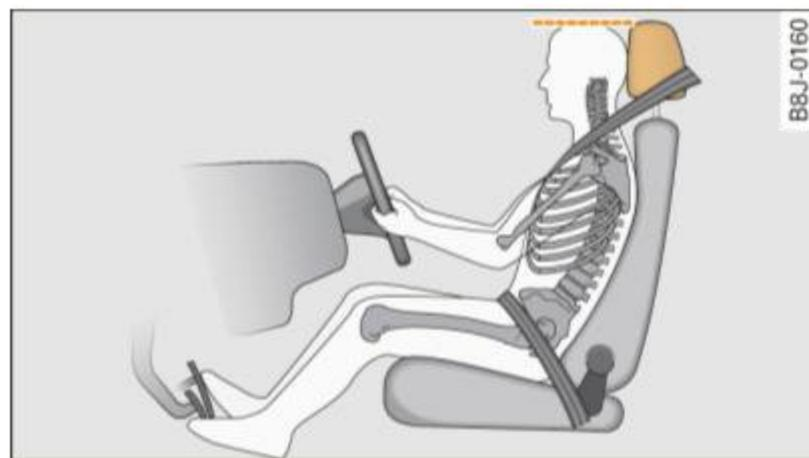

Fig. 157 Correct head restraint position for driver
- Adjust the head restraint so that the upper edge is as even with the top of your head as possible but no lower than eye level and so that it is as close to the back of your head as possible ⇒ fig. 157.